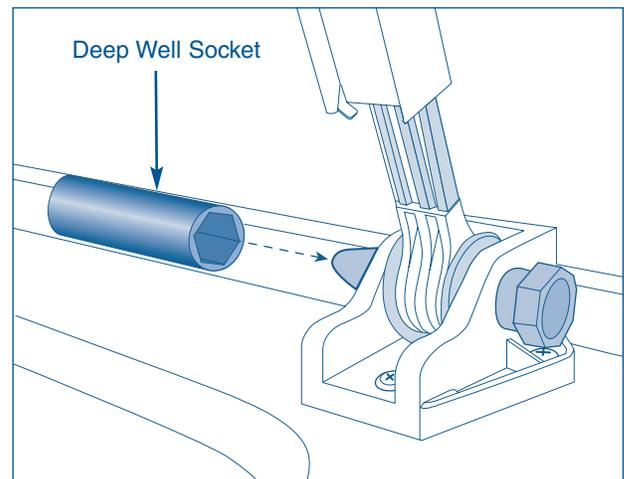

Figure 4-56.
2. Remove air shock securement pins by depressing locking tab with the socket as described above, while pulling pin to remove. (See Figure 4-56)